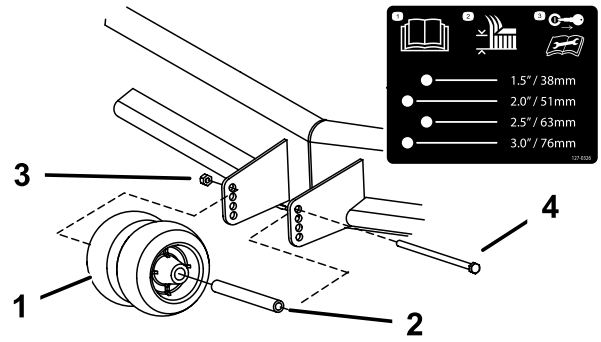

Figure 13
2. Adjust the anti-scalp rollers as shown in Figure 13.